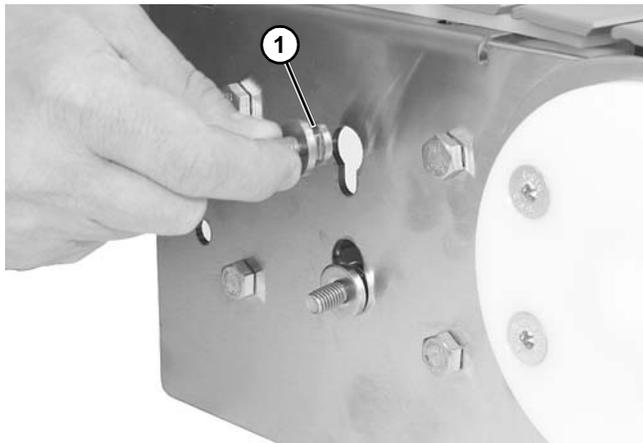

Figure 23
1. Install carriage bolts with spacers (**Figure 23, item 1**) into slotted holes in conveyor side.